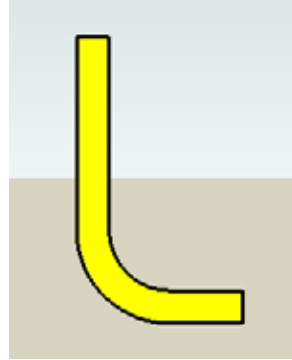

Figure 2-53
- Use the Eraser tool to remove the rest of the rectangle, and paint your half-section (Figure 2-53).